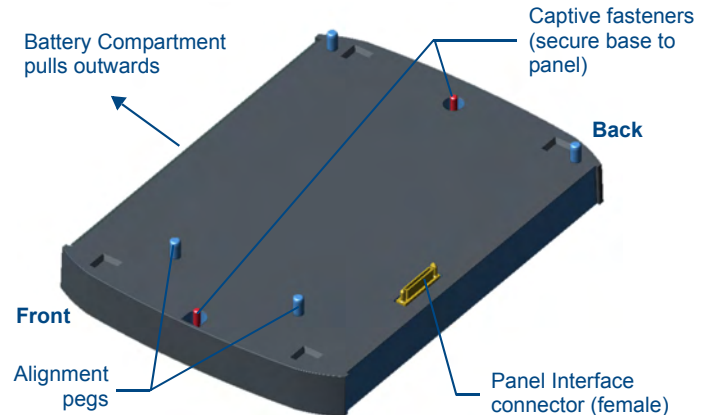

FIG. 2 NXA-BASE/B showing Panel Interface and connector locations
The NXA-BASE/B (Battery Base) is a Modero accessory that allows a touch panel to function off the collective charge of two internally connected NXT-BP batteries (FG2255-10). The base provides both power and battery information to the panel via the panel interface connector (FIG. 2).
3. Verify the alignment of the Panel Interface connectors between the panel (male connector) and base (female connector) (FIG. 2).